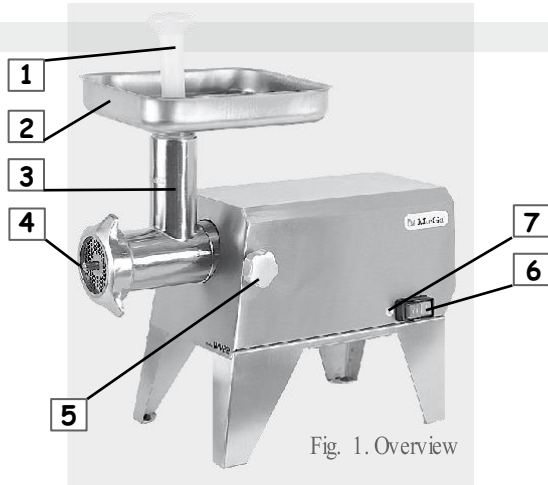

Fig. 1. Overview
The device can be switched on by pressing the green switch button (Fig. 1, item 6). The machine is switched off by pressing the red switch button.
After unpacking the machine, read the user manual carefully. The owner of this device is fully responsible for the fact that the "Wolf" will be used safely and in accordance with these user manuals, strictly following the instructions contained in the manual, and furthermore, that the device will meet the requirements of the European Union regulations during operation. After taking the machine out of the package, it is assembled and only needs to be mounted to the screw housing (Fig. 1, item 2). Before the first start-up, check that the locking screw (Fig. 1, Item 5) is tightened and that the worm housing is securely fixed in the drive unit. Although after taking out of the package, the screw housing with the screw, knife and strainer is assembled and mounted to the drive unit, it is recommended to disassemble the whole thing after setting up the machine in order to check the correctness of assembling the whole thing in the screw housing. To start the machine, press the green switch button (Fig. 1, item 6).
After assembling the entire cutting unit and securing it with locking screw 2 (Fig. 5), install tray 2 (Fig. 1) into the top hole of the auger housing.